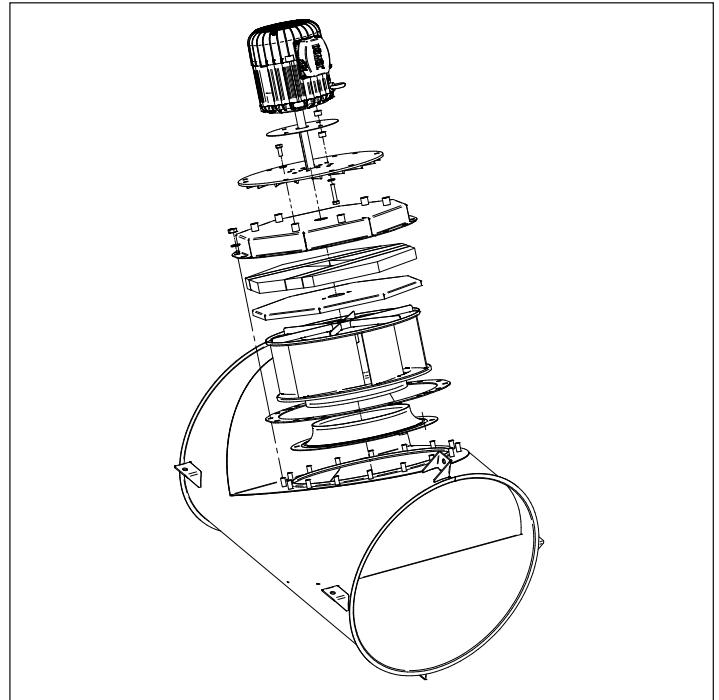

Fig 15
2. When power venter wheel no longer rotates, remove the bolts holding the motor drive unit in place and lift out the whole drive assembly. See Fig. 15.